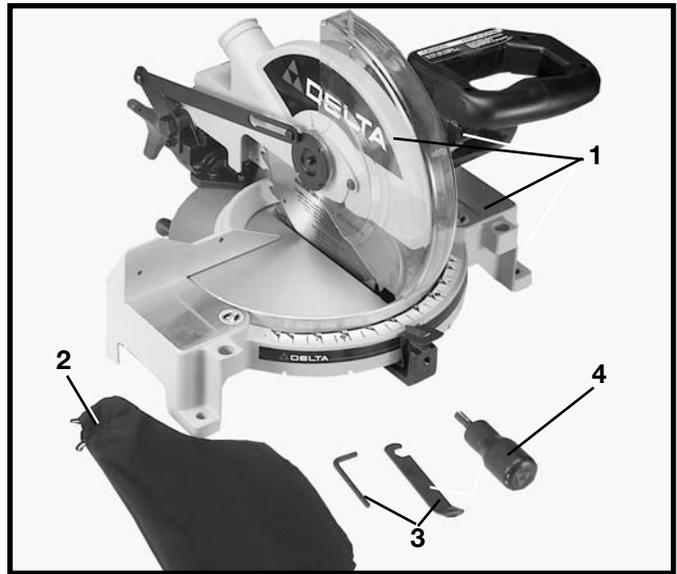

Fig. 2
1. Remove the miter saw and all loose items from the carton. **IMPORTANT: DO NOT LIFT THE MITER SAW BY THE SWITCH HANDLE AS THIS MAY CAUSE MISALIGNMENT. ALWAYS LIFT THE MACHINE BY THE BASE OR CARRYING HANDLE.** Fig. 2 illustrates the machine and all loose items after they have been removed from the carton.